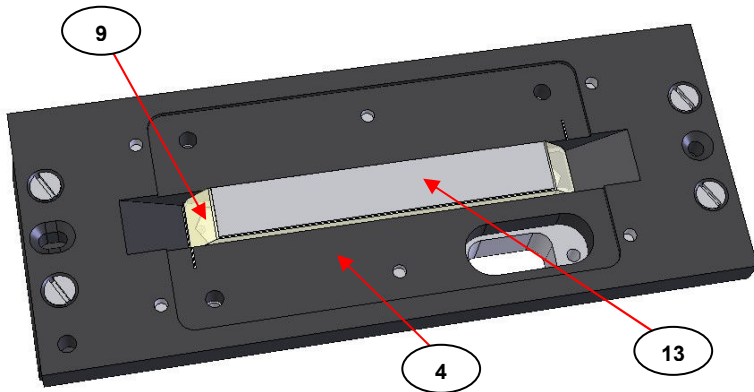

Fig 7. Lead Pad on Underside of ATR Crystal in the Thermostabilised Flow Through Top Plate Assembly
2) Between the underside of the lower thermocirculating plate (11) and the ATR crystal (9) there is a protective lead pad (13). Carefully remove the lower thermocirculating plate (11) away to gain access to the lead pad (13). (See Fig 7.) The lead pad (11) may be stuck close to the underside of the crystal (9) and so it needs to be removed very carefully away from the crystal.
3) Place the lead pad (13) carefully and centrally on the underside face of the crystal (9), making sure that it does not obscure the input or output angled faces of the crystal. (See as Fig 7.)